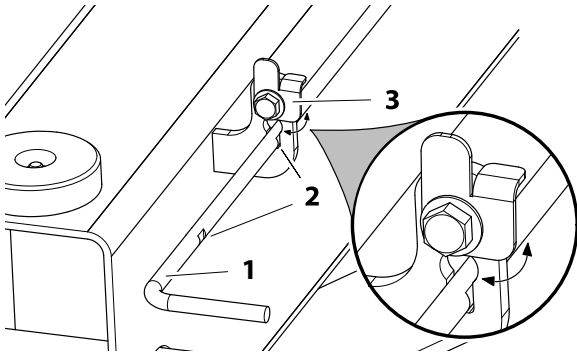

Figure 2-2. Safety Prop Actuator Rod
2. Rotate the rod keeper plate and release the safety prop actuator rod at the front of the machine. (See Figure 2-2.)